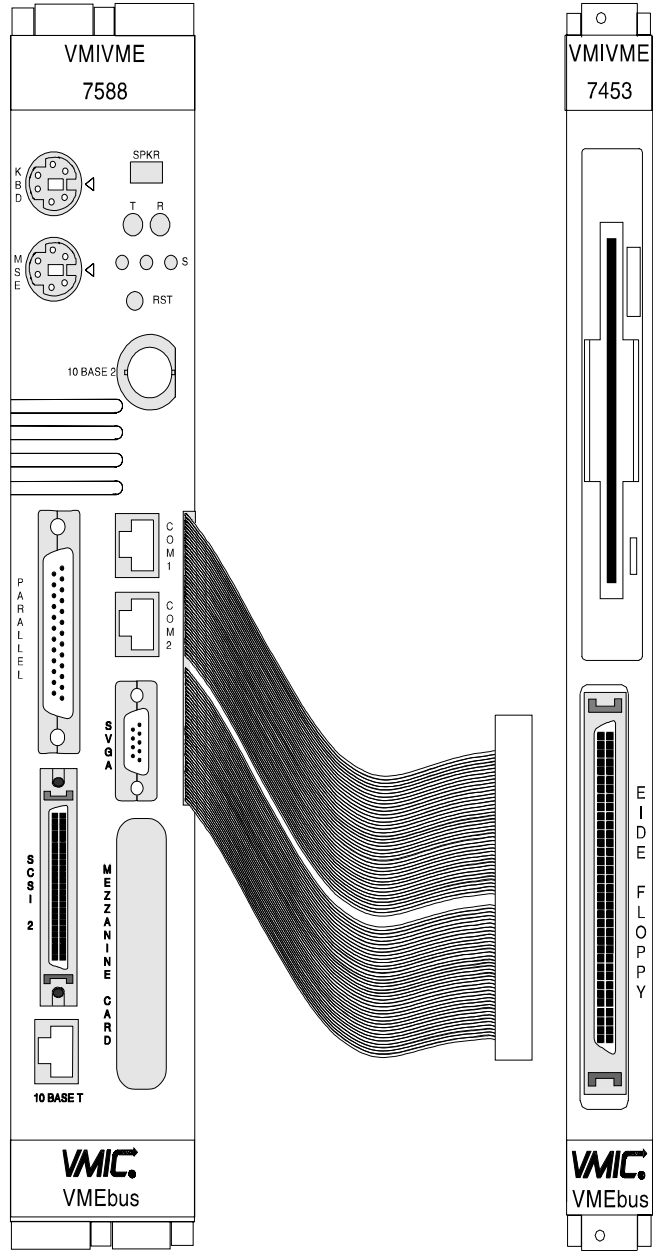

Figure 2. Connecting the CPU to the VMIVME-7453
5. Attach cable to the VMIVME-7453 front panel as shown in Figure 2.